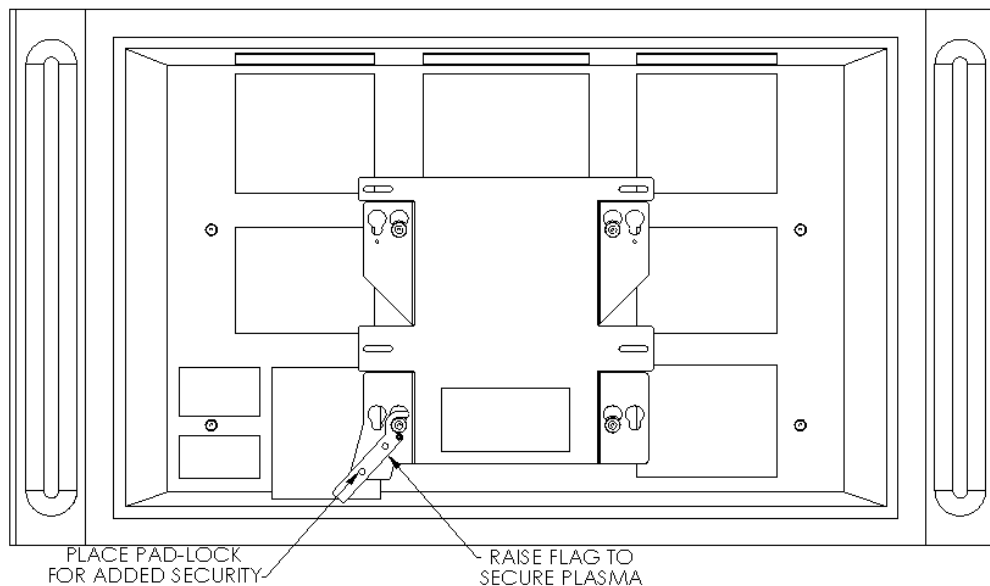

Figure 3
4. With the aid of another person, lift the plasma display up to the mount, align the mounting buttons on the plasma with the teardrop slots in the mount, and set the plasma into place (see Figure 3).